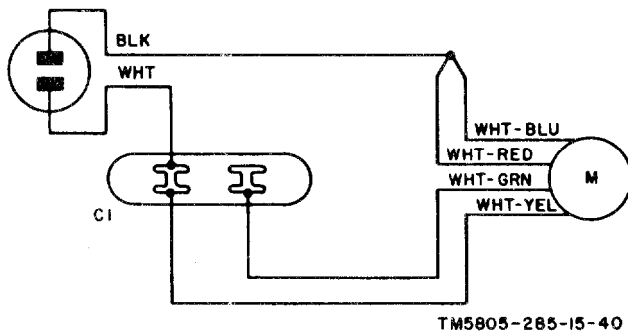

Figure 34. Exhaust blower, schematic-wiring diagram.
- (5) Connect the motor leads and the power cord to the replacement capacitor (fig. 34).
- (6) Slide the capacitor into the clamp and tighten the screw.
- (7) Replace the power cord clamp.
- (1) Remove the capacitor from the clamp (b(2) through (4) above),
- (2) Tag and disconnect the power cord leads from the capacitor and motor leads.
- (3) Connect the new power cord to the capacitor and motor leads (fig. 34).
- (4) Slide the capacitor into the clamp and tighten the screw.
- (5) Replace the power cord clamp.
- (4) Tag and disconnect the motor leads from the capacitor and power cord.
- (5) Remove the power cord clamp.
- (6) Remove the screws that secure the motor mounting bracket to the motor.
- (7) Loosen the Allen-head setscrews that secure the impeller to the motor shaft and remove the impeller.
- (8) Slide the impeller (setscrews toward the motor) onto the shaft of the new motor and tighten the setscrews.
- (9) Secure the motor bracket to the new motor.
- (10) Connect the motor leads to the capacitor and power cord (fig. 34).
- (11) Replace the power cord clamp.
- (12) Position the motor bracket and blade guard on the blower ring.
- (13) Replace and tighten the bolts that secure the motor bracket and blade guard to the blower.
- (14) Replace the exhaust blower by reversing the procedures given in (1) and (2) above.
- (15) Replace the exhaust blower cover (para 39b).